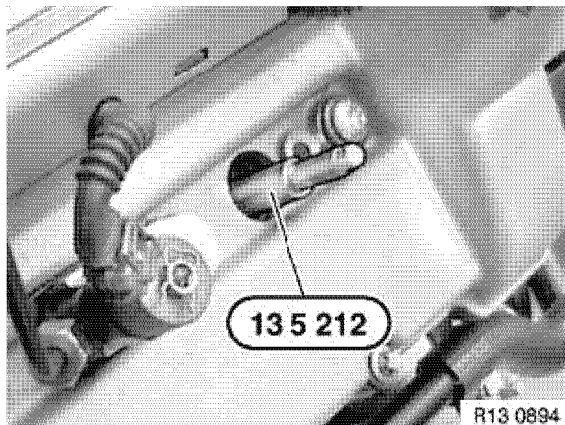

Figure 6-16
- Clean sides of cavity by sliding tool in and out (Figure 6-16).